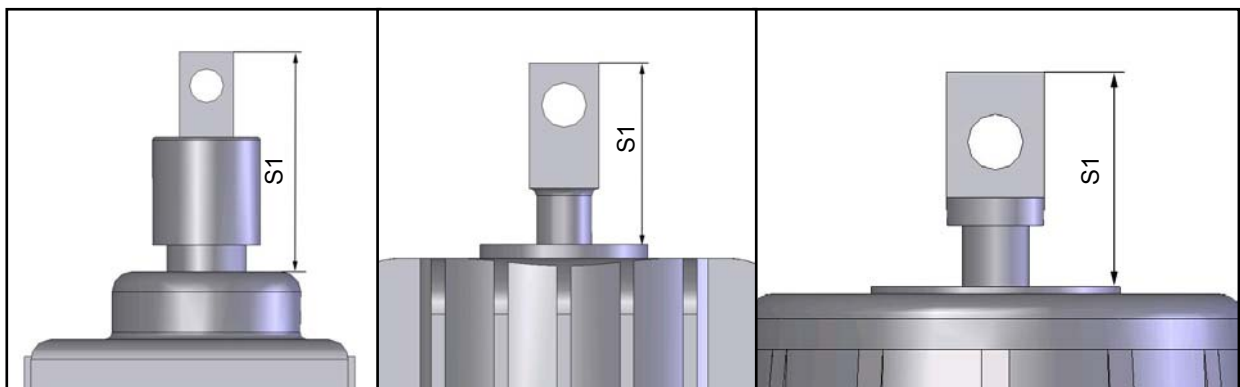

Fig. 8: piston rods of the different ELDRO-thrusters and ELHY-Thrusters
- Measure S_1 (Fig. 8) with brake closed.
- Turn Nut (3.14) **counterclockwise** until the piston rod of the thruster (Fig. 8) has reached the necessary value for S1 (table 2).